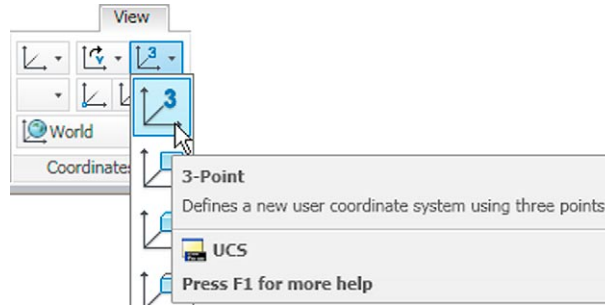

Fig. 17.13 The UCS, 3 Point icon in the View/Coordinates panel
4. Click the **3 Point** tool icon in the **View/Coordinates** panel (Fig. 17.13):